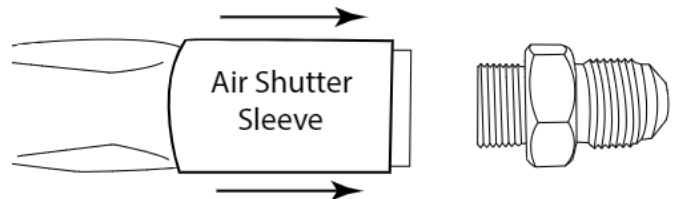

Fig. 3. Natural gas setting; air shutter sleeved installed.
**Step 6:** After the main burner orifice and brass fitting is removed then slide the air shutter sleeve off the burner tube and expose the hole for the LP gas (Figs. 3 & 4).